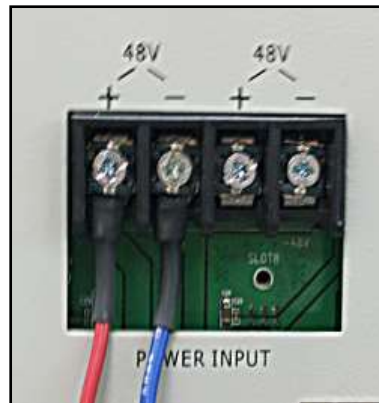

Figure 4-22. Factory Installed DC Power Cable
2. Verify the DC power cable is attached securely, as shown **Figure 4-22**.